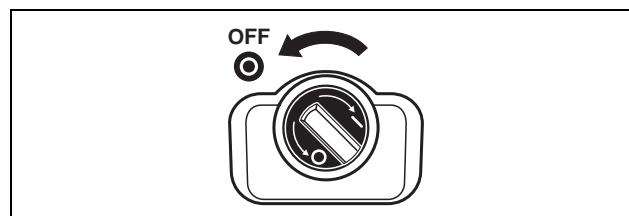

Fig. 78: DC load break switch OFF
- Turn the DC load break switch to OFF (figure 78) or switch off the solar generator via the external DC isolator.